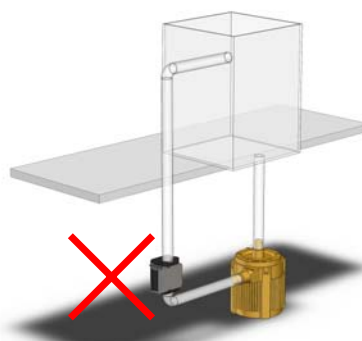

Figure 28: Not enough straight run before clamp-on
2. Push the “ZERO ADJ” button on the converter, see Figure 28, for about 3 seconds.